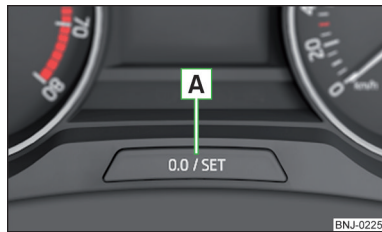

Fig. 22
➤ Press button **A** » Fig. 22 on page 37.
- Press and hold the button **A** » Fig. 22 until the time is shown in the display.